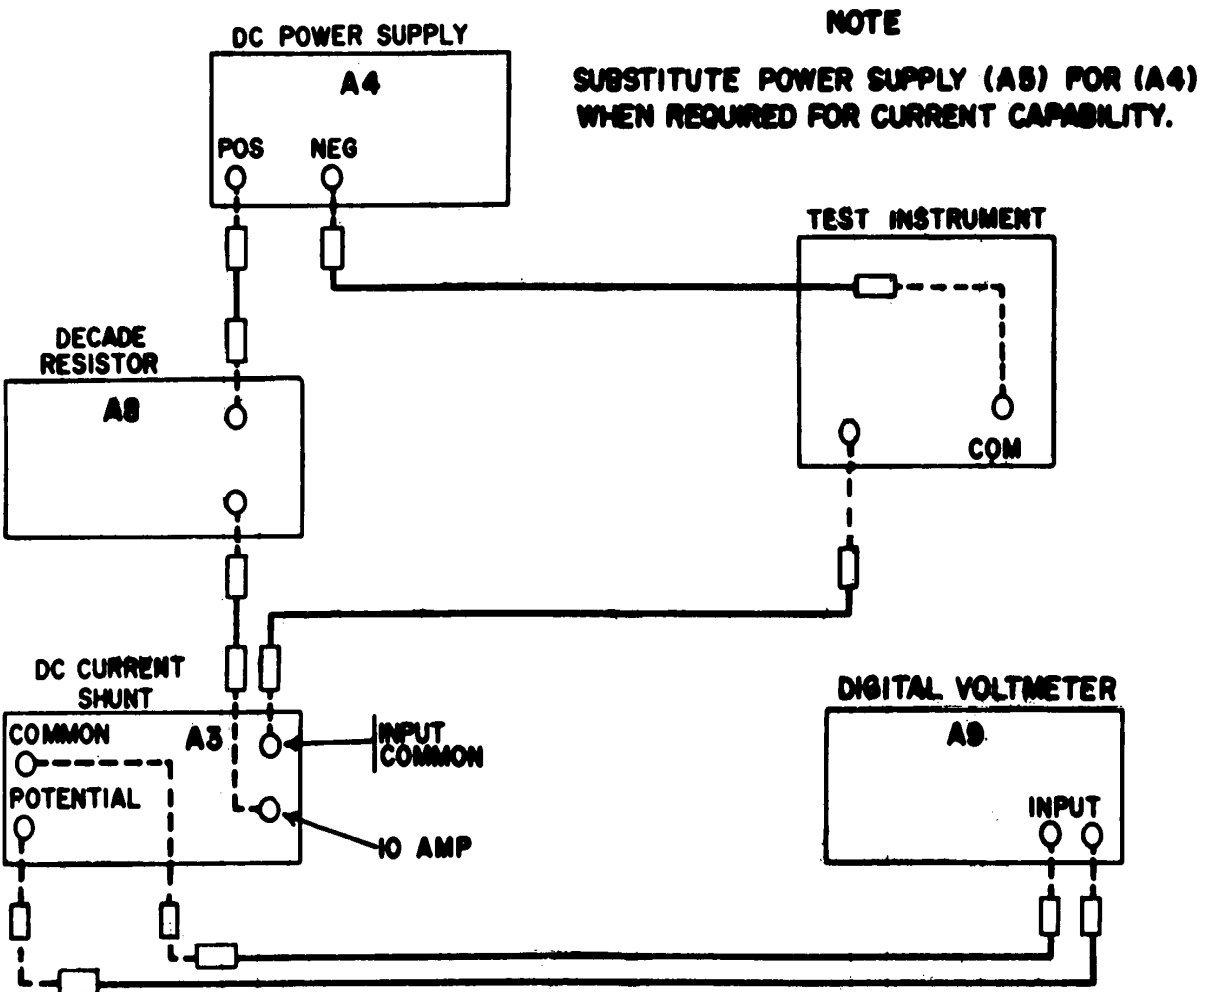

Figure 1. Dc current - equipment setup.
(1) Set TI function switch (if applicable) to dc amps and set range switch to lowest range.
(2) Connect equipment as shown in figure 1.